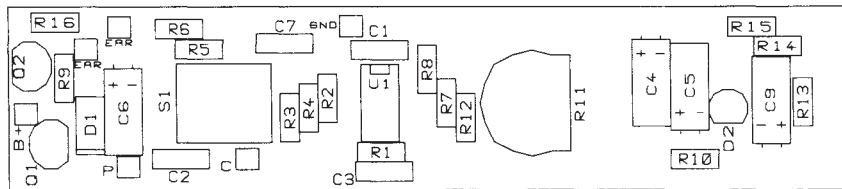
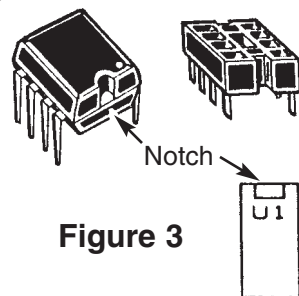

Figure 1 - Top Legend
Figure 3
Refer to Figure 1, install and solder the following resistors.
- Install and solder the 8-pin IC socket (U1). Carefully install the LM-385 IC (see Figure 3). Be sure that the notch is in the correct direction as shown in Figure 1.
Refer to Figure 1 or the top legend on the PC board. Install and solder the following capacitors.
Install and solder the transistors with the flat side in the direction shown in Figure 1.
- Install D2, the red LED. Cut two 7/16" plastic tubes to be used as standoffs. Place each LED lead into the tubing so that the LED stands 7/16" off of the PC board. Look for the flat side at the base of the LED. Mount it with the flat side as shown in Figure 1. Solder into place.
- Mount the switch 1/8" off of the PC board, as shown in Figure 5. Install and solder the switch (S1) in the place shown in Figure 1.